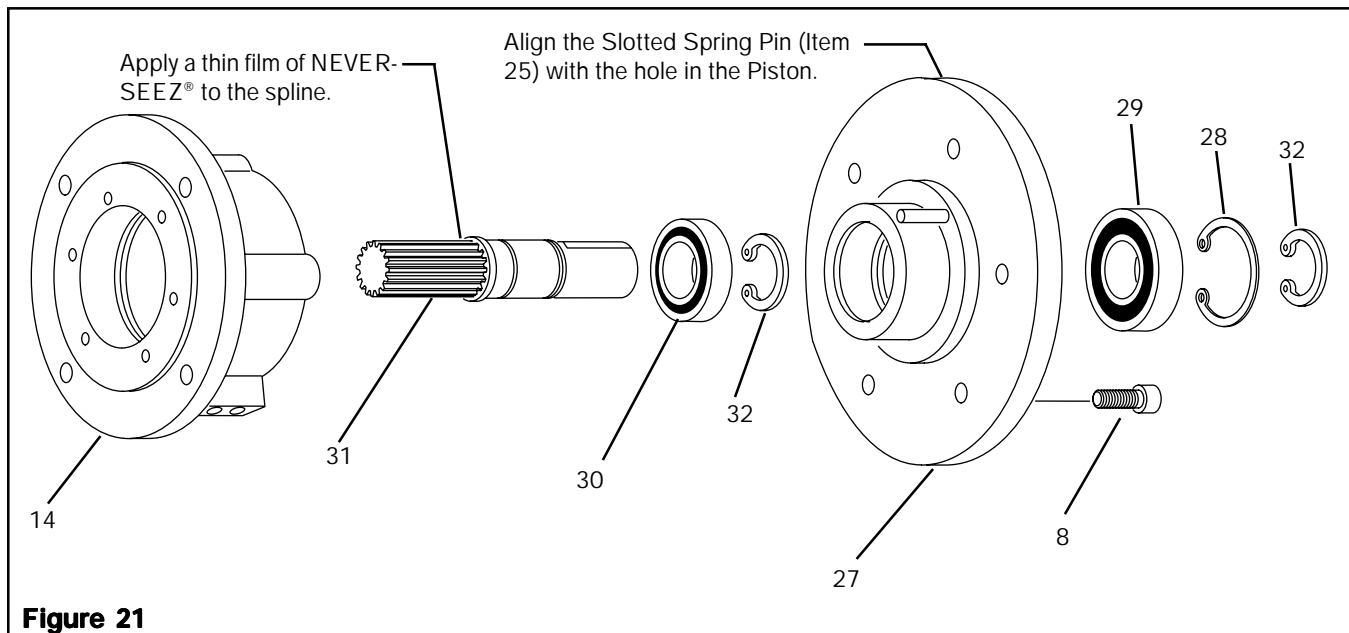

Figure 21
1. Remove the first Retaining Ring (Item 32) from the Stub Shaft (Item 31) (See Figure 21).
2. Press the Stub Shaft (Item 31) out of the Male Pilot (Item 27) (See Figure 21).
3. Remove the second Retaining Ring (Item 32) from the Stub Shaft (Item 31) (See Figure 21).
4. Remove the old Bearing (Item 30) from the Stub Shaft (Item 31) (See Figure 21).
5. Remove Retaining Ring (Item 28) from the Male Pilot (Item 27) (See Figure 21).
6. Press the second old Bearing (Item 29) out of the Male Pilot (Item 27) (See Figure 21).
7. Clean the bearing bore of the Male Pilot (Item 27) with fresh safety solvent, making sure all old Loctite® residue is removed (See Figure 21).
8. Press the new Bearing (Item 30) onto the Stub Shaft (Item 31) (See Figure 21).
9. Reinstall the first Retaining Ring (Item 32) onto the Stub Shaft (Item 31) (See Figure 21).
11. Carefully align the outer race of the new Bearing (Item 29) with the bore of the Male Pilot (Item 27) (See Figure 21).
12. Supporting the Male Pilot (Item 27) and pressing on the outer race of the new Bearing (Item 29), press the new Bearing into the Male Pilot (See Figure 21).
13. Reinstall Retaining Ring (Item 28) (See Figure 21).
15. While supporting the inner race of Bearing (Item 29) and pressing on the outer race of the Bearing (Item 30), press the new Bearing and Stub Shaft into the Male Pilot and Bearing (See Figure 21).
17. Apply a thin film of NEVER-SEEZ® to evenly coat the splines of the Stub Shaft (Item 31) (See Figure 21).
19. Apply a drop of Loctite® 242 to the threads of the Socket Head Cap Screws (Item 8) (See Figure 21).